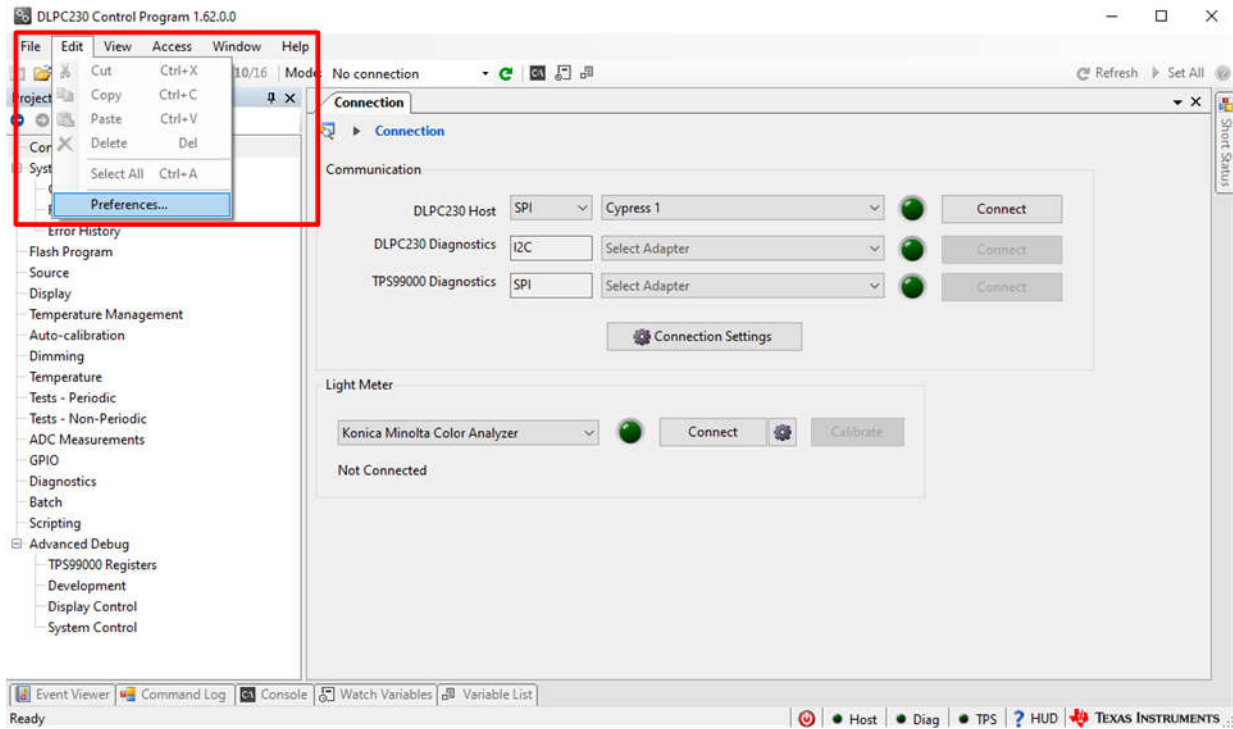

Figure 3-2. Changing to HUD Product Option - File Menu
3. A new *Preferences* window opens up. Select *Product Options* and then use the drop-down box shown in Figure 3-2 to select the HUD product option for the PGU.